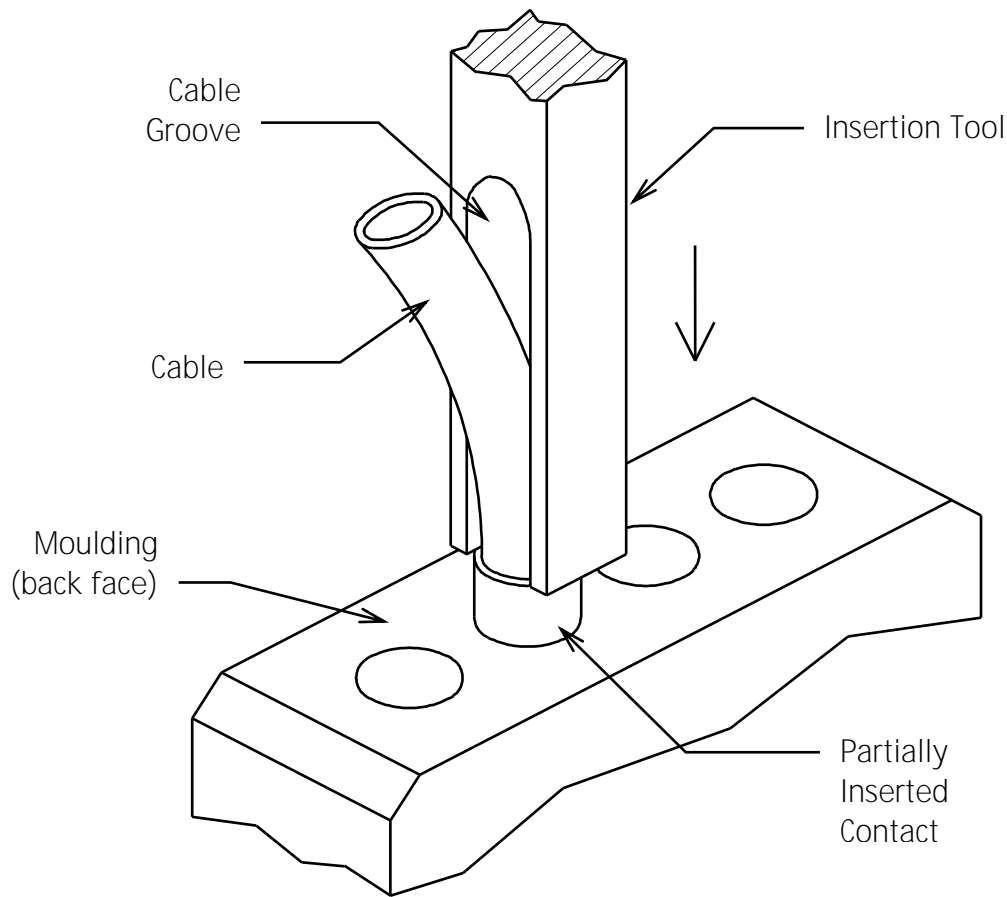

Figure 1
5. Place the insertion tool over the wire, with the wire sitting in the groove and the tool resting on the back of the crimped socket (see Figure 1).